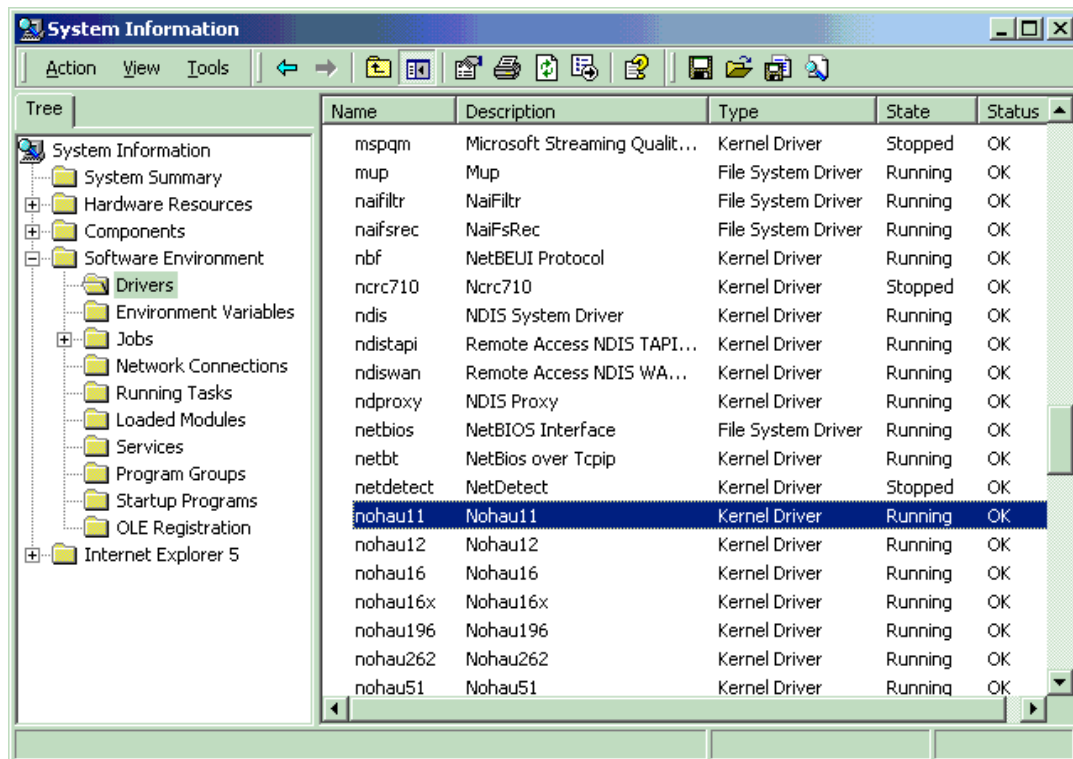

Figure 17. List of Active Drivers
4. Double-click the Drivers folder. A list of active drivers appears (Figure 17). Refer to the **Name** column and scroll down to **nohau51**.